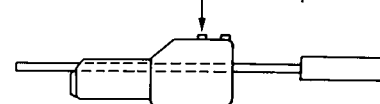

Fig. 2
2. IDC crimp with pincher (Fig. 2)